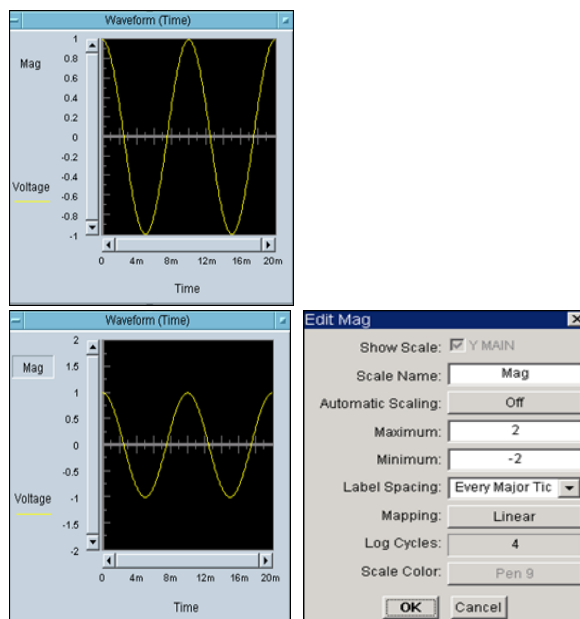

Figure 1-15 A Comparison of the Two Mag Settings
- 2 Run this program; compare its results with the previously settings. See Figure 1-15.